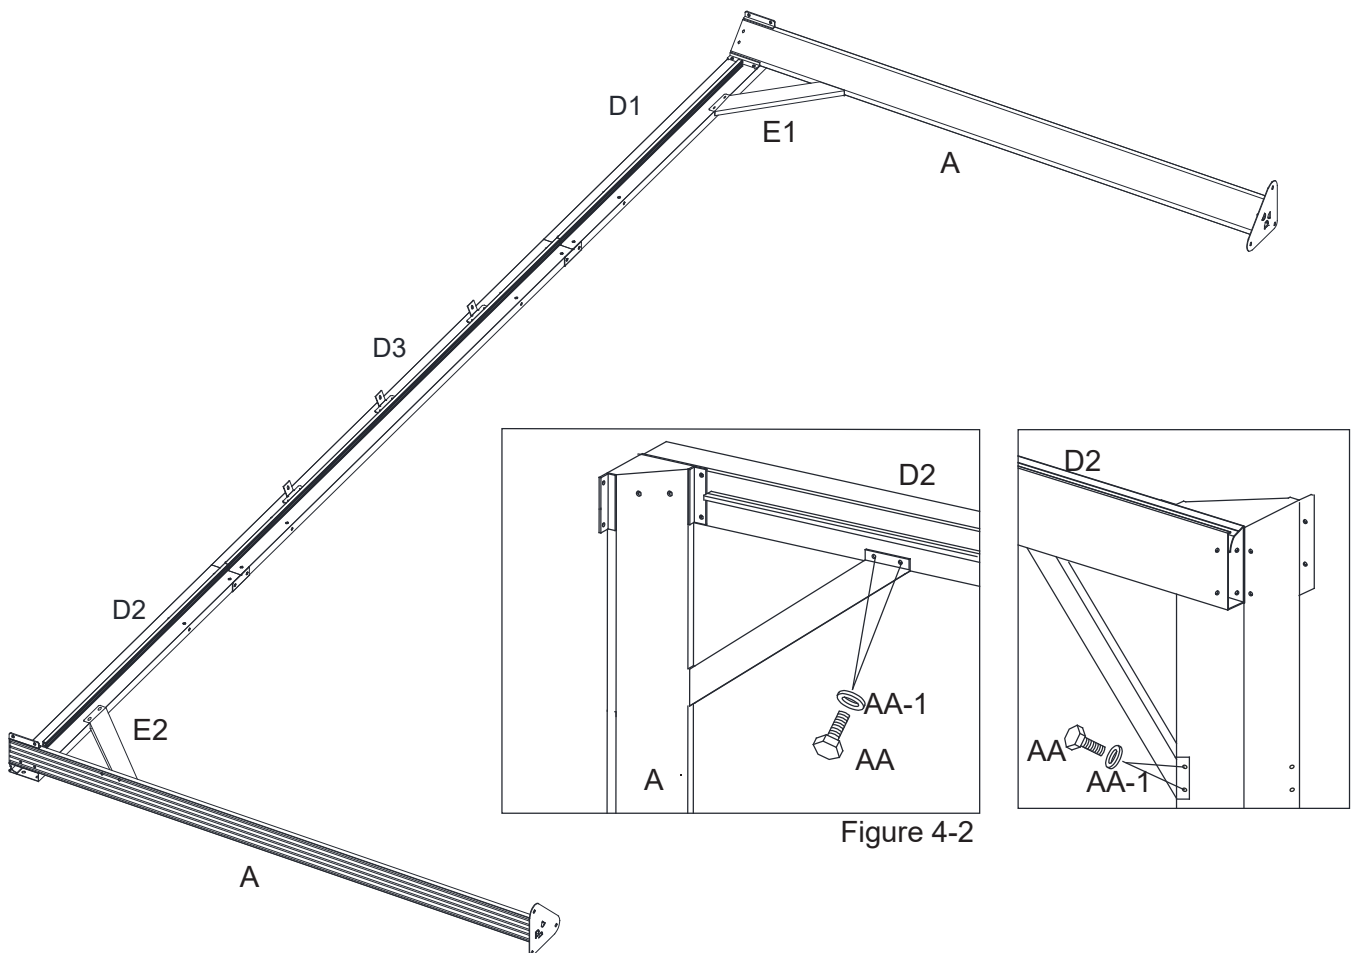

Figure 4-2
4.2: Attach Support Bars (E1/E2) to Corner Post (A) and to Lintels (D1/D2) with Bolts (AA) and Steel washer (AA-1). See Figure 4-2.